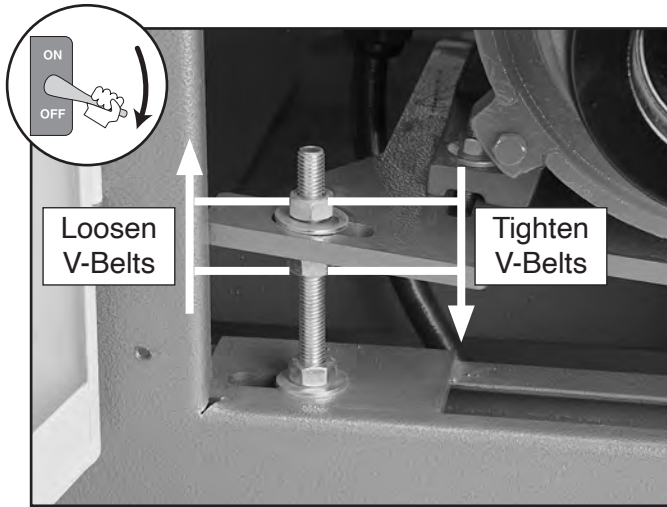

Figure 53. V-belt tension controls.
3. Rotate motor mount hex nuts (see **Figure 53**) *counterclockwise* to loosen or *clockwise* tighten V-belts.